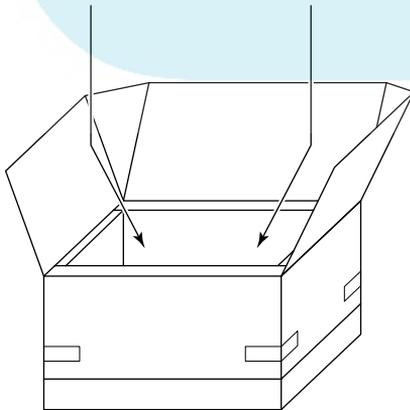

Figure 9-5:
- ✓ **Reflectors:** You can boost the heat quite a bit with a *reflector*, which functions to increase the amount of total sunlight radiation that gets into the oven cavity. Cut some cardboard, glue aluminum foil to each piece (shiny side out), and tape the reflectors together and onto the oven (see Figure 9-5).